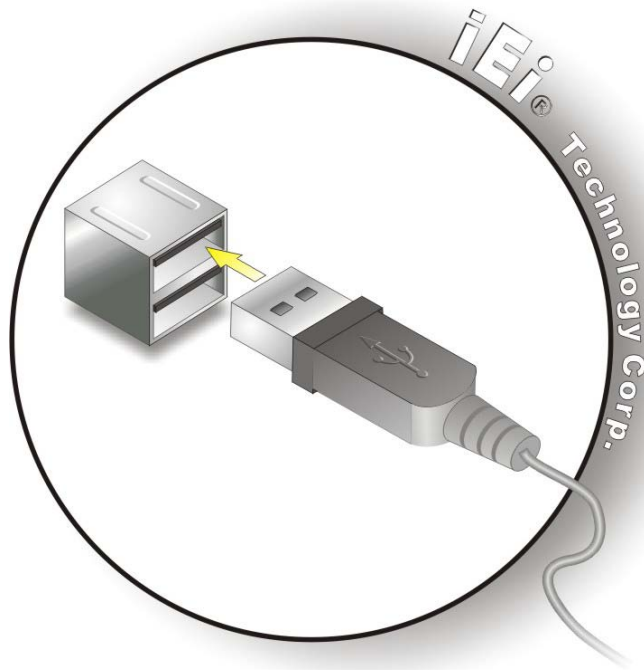

Figure 3-23: USB Device Connection
Step 2: Align the connectors. Align the USB device connector with one of the connectors. See **Figure 3-23**.